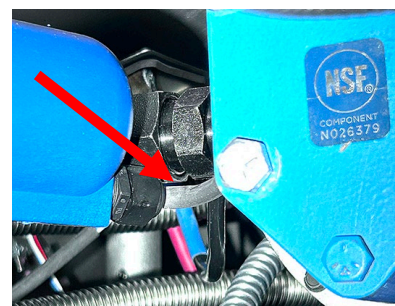

Figure 4
10. Visually inspect to determine if the actuator wiring is deteriorating (see Figure 4). If so, schedule a call to replace the actuator. Follow the instructions in Appendix A, Step 1A to install a new actuator.